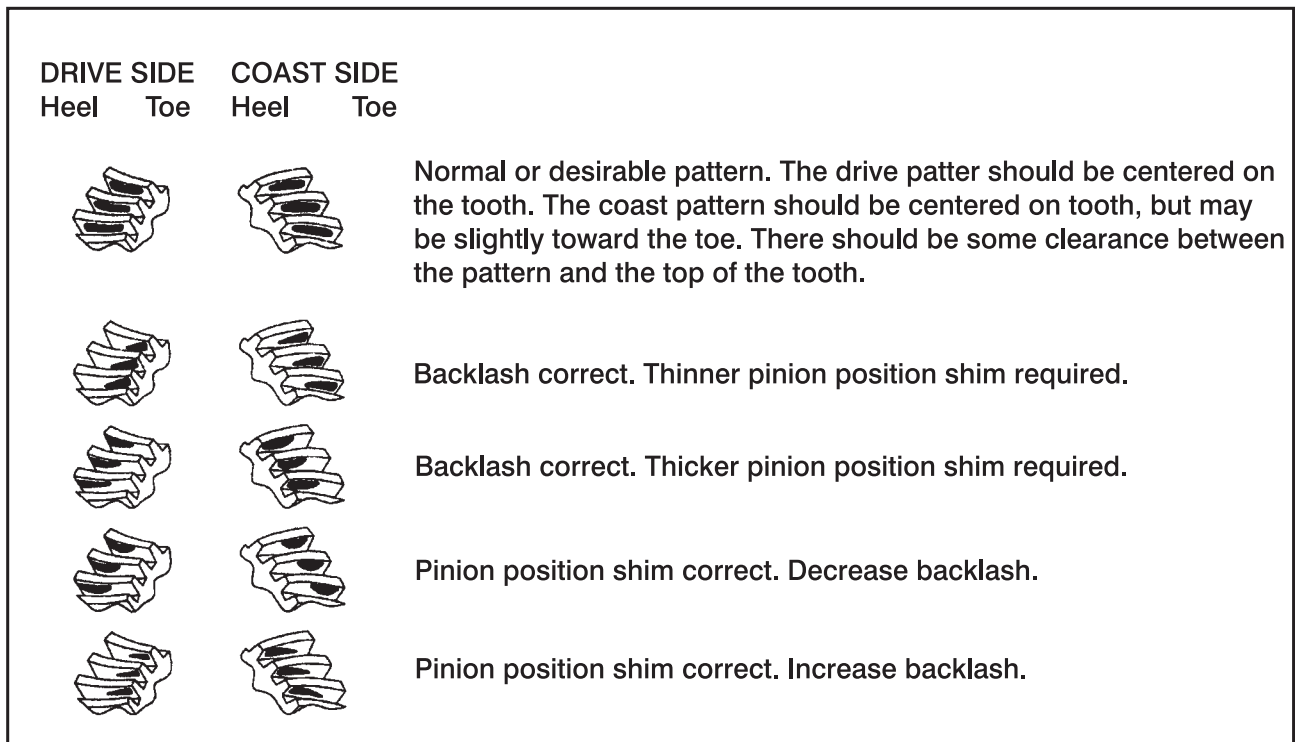

Figure 2-19. Ring Gear Pattern Interpretation
- Inspect the ring gear for wear patterns as outlined in Figure 2-19., Ring Gear Pattern Interpretation. Make any necessary adjustments with the following information in mind.